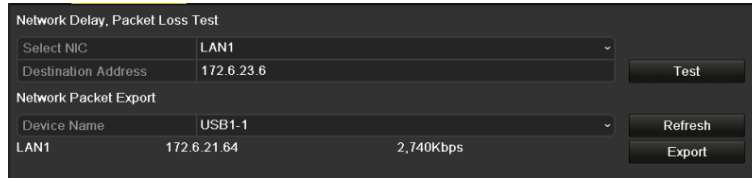

Figure 12-32 Export Network Packet
Step 3 Select the backup device from the dropdown list of Device Name, as shown in Figure 12-32.